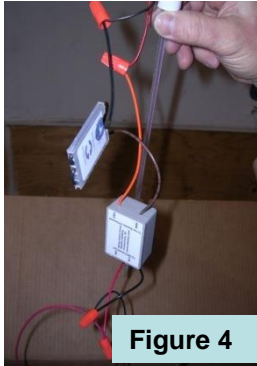

Figure 4
- Remove photocell and any assemblies and pull wires from the center box. Set this aside it will not be used (See Figure 4).